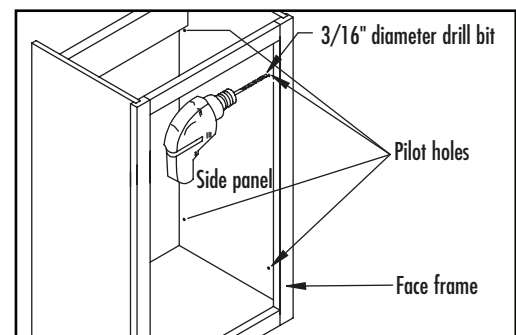

Figure 28
- Pre-drill eight holes around perimeter (1" from edge) of cabinet side panel from the inside (Figure 28).